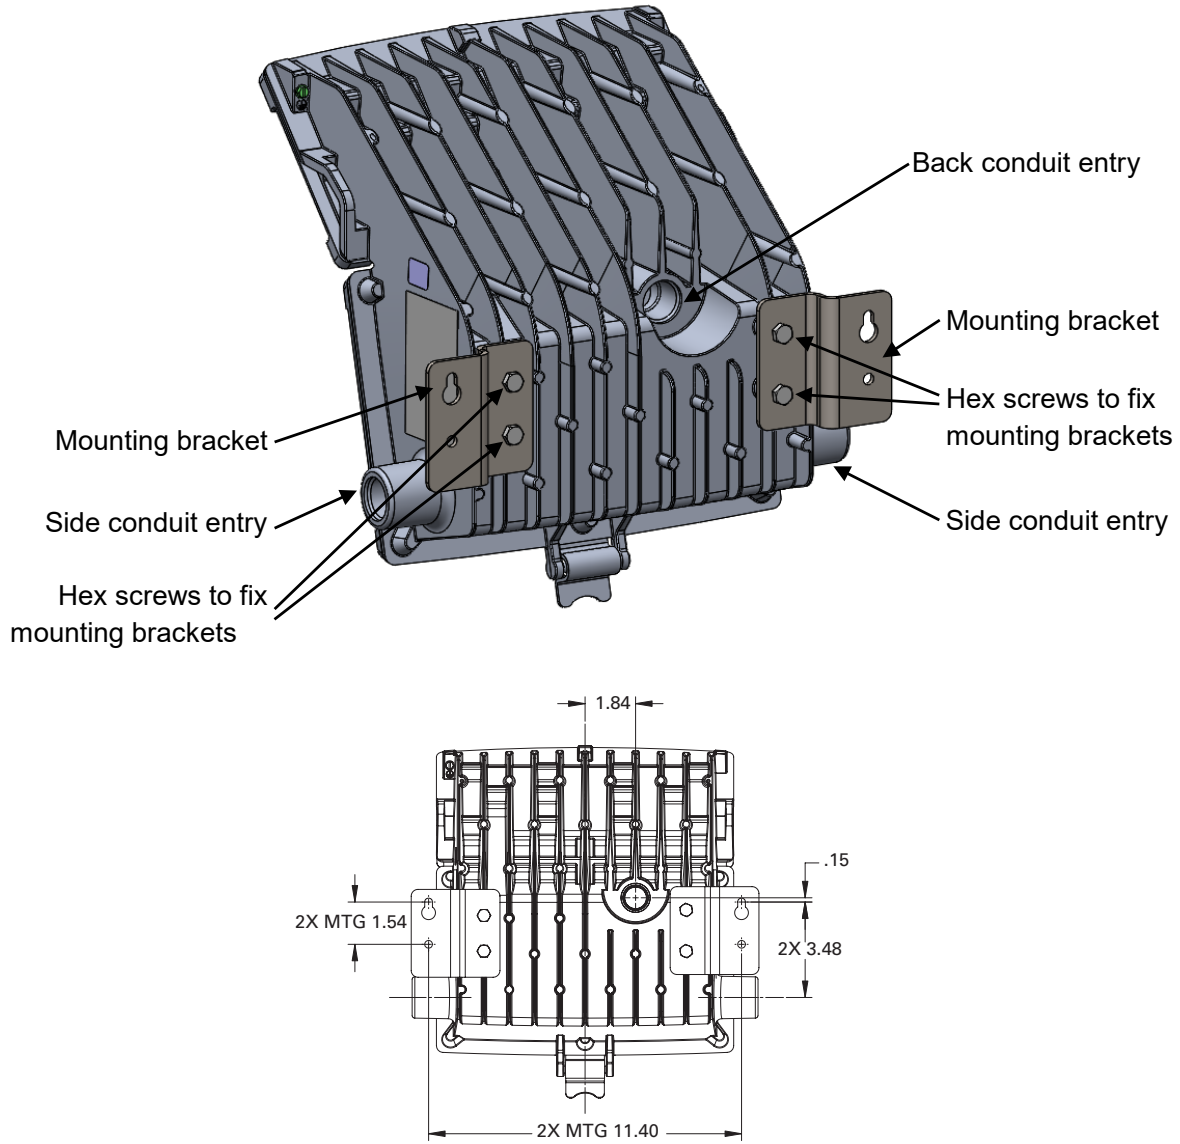

Figure 1
1. Mark and drill desired location on mounting surface of the wall. Mounting brackets will come pre-installed. Luminaire is provided with three $\frac{3}{4}$ " NPT conduit entries and two plugs shipped with the luminaire, but not installed (Figure 1). Plug the conduit entries not being used. To prevent galling and to ensure water tightness, lubricate conduit plugs with Eaton's Crouse-Hinds series HTL lubricant before installing, and secure wrench-tight with at least five (5) full threads engaged (42-52 ft.-lb. for $\frac{3}{4}$ " plugs).